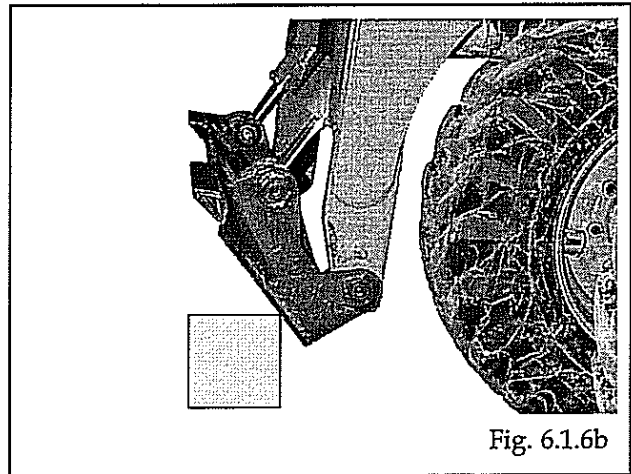

Fig. 6.1.6b
6. Install the tilt cylinder rod end pivot pins (Fig. 6.1.6b).
7. Install the pivot pin lock bolts and lock nuts (Fig. 6.1.6b).